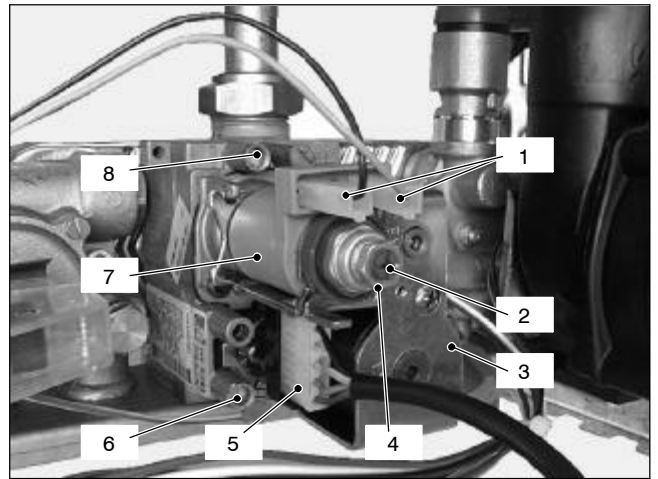

Fig. 44
11.2 Nomenclature of the parts (Fig. 44)
- 2 Open the gas valve inlet pressure test point (6 in Fig. 44) at the valve input, connect a suitable pressure gauge and check the gas pressure of the supply network.
- 4 Open the gas valve outlet pressure test point (8 in Fig. 44) and connect the gauge;
- 7 Rotate the maximum gas pressure adjustment (4 in Fig. 44) until you obtain the required pressure (by rotating clockwise the pressure increases).
- 8 Disconnect one of the two connectors (1 in Fig. 44) or, alternatively, remove the service panel as explained in the section 2.3 of this manual and set the dip–switch selector 1 (see section 9.5) to the OFF position.
- 9 Rotate the minimum gas pressure adjustment (2 in Fig. 44) until you obtain the required pressure (by rotating clockwise the pressure increases).